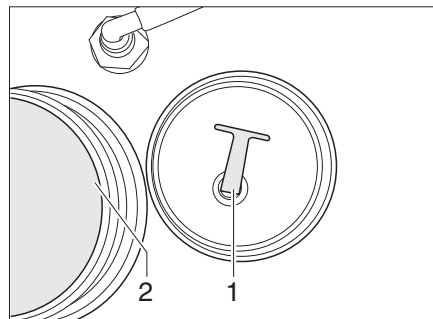

Fig. 94 Water tank
- Unscrew the cap (Fig. 94,2) on the water tank.
- Press the stopper (Fig. 94,1) in the drainage opening and turn the lever.
- Remove the stopper (Fig. 94,1) from the drainage opening. The water drains off.